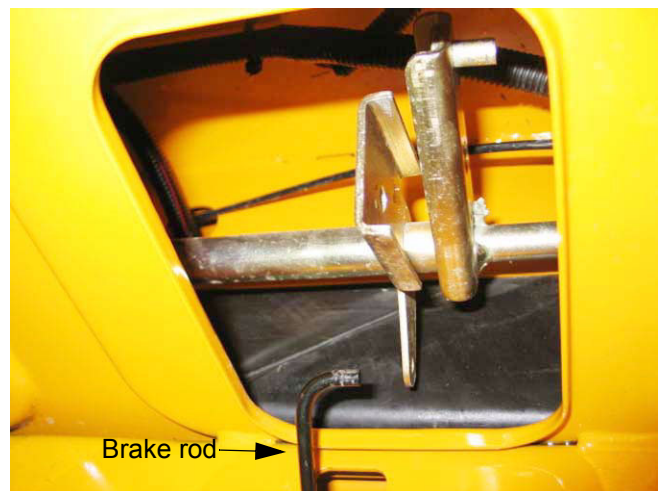

Figure 14.12
- 14.12. Slide the concentric brake cross shaft to the right allowing the brake rods to come out of the hole in the shaft. See Figure 14.12.